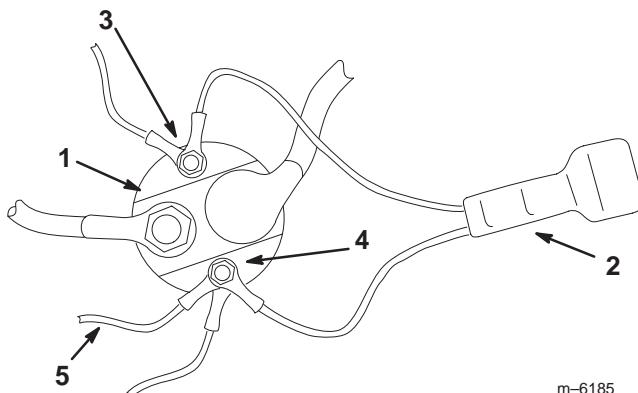

Figure 19
11. Remove the nuts from the small terminals on top of the start solenoid, located near the battery (Fig. 19).
12. Connect the diode across the terminals (Fig. 19) with the blue wire going to the terminal that already contains blue wires and the black wire going to the terminal containing black wires.
13. Connect the ring terminal on the black wire of the module wiring harness to the terminal on the solenoid containing black wires (Fig. 19).